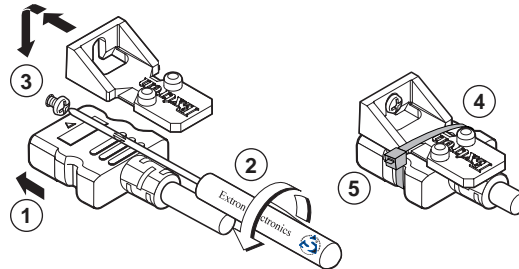

Figure 7. Installing the LockIt Lacing Bracket
4. Loosely place the included tie wrap around the HDMI connector and the LockIt lacing bracket (see figure 7).